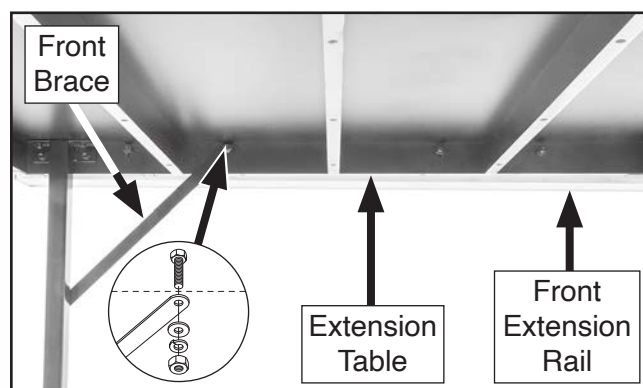

Figure 27. Extension table secured to front extension rail.
13. Align open end of front brace with remaining open hex bolt, then secure with (1) 8mm flat washer, 8mm lock washer, and M8-1.25 hex nut, as shown in **Figure 27**. Hand-tighten fasteners for now.